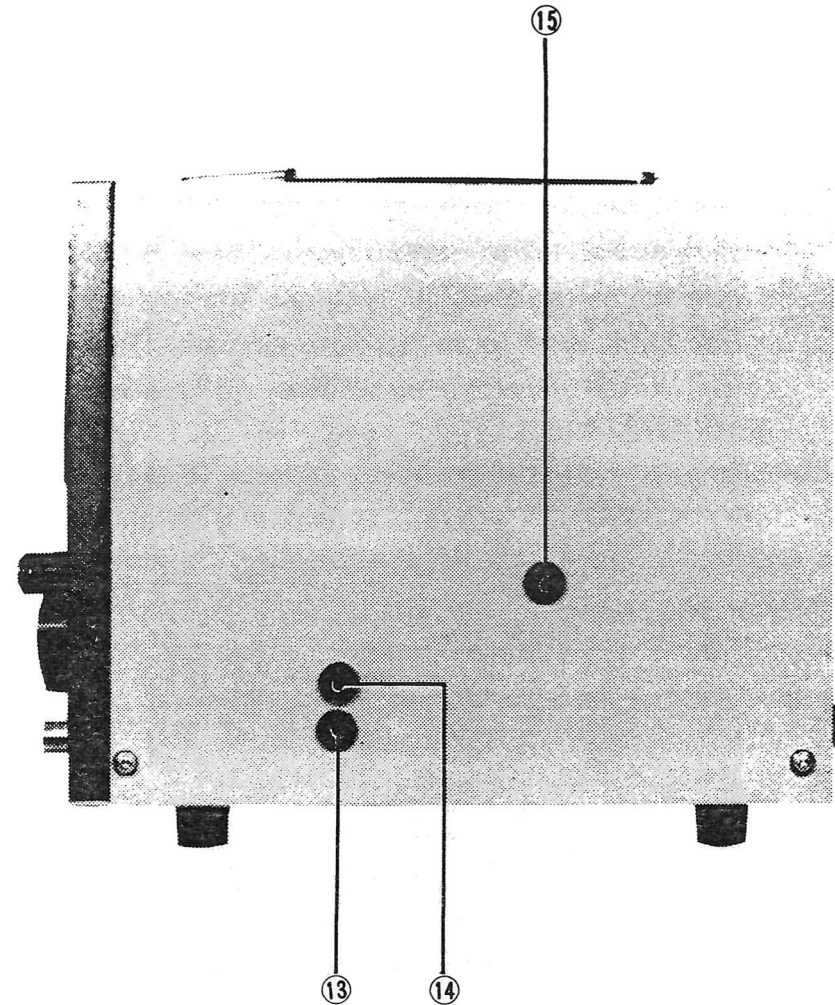

Figure 4 – Preset Controls on Side Panel.
3) Preset Controls on Side Panel (see Figure 4)